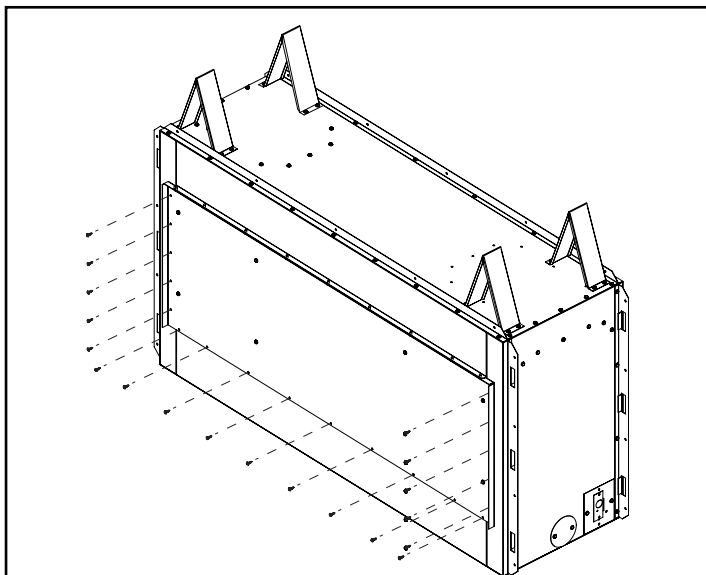

Figure 14 - Installing Rear Panel for Regular Applications
1. Using self-tapping screws provided and holes on rear panel as a guide, screw the rear panel to the fireplace as shown in **Figure 14**.